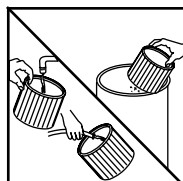

FIGURE 26, 27
37. To clean the cartridge filter shake or brush off excess dirt or rinse (from the inside of the filter) with water, dry completely (approximately 24 hours) and re-install. **FIGURE 26, 27.** **Note:** If the filter has been used for wet pick up, it must be cleaned and dried before using for dry pick up.